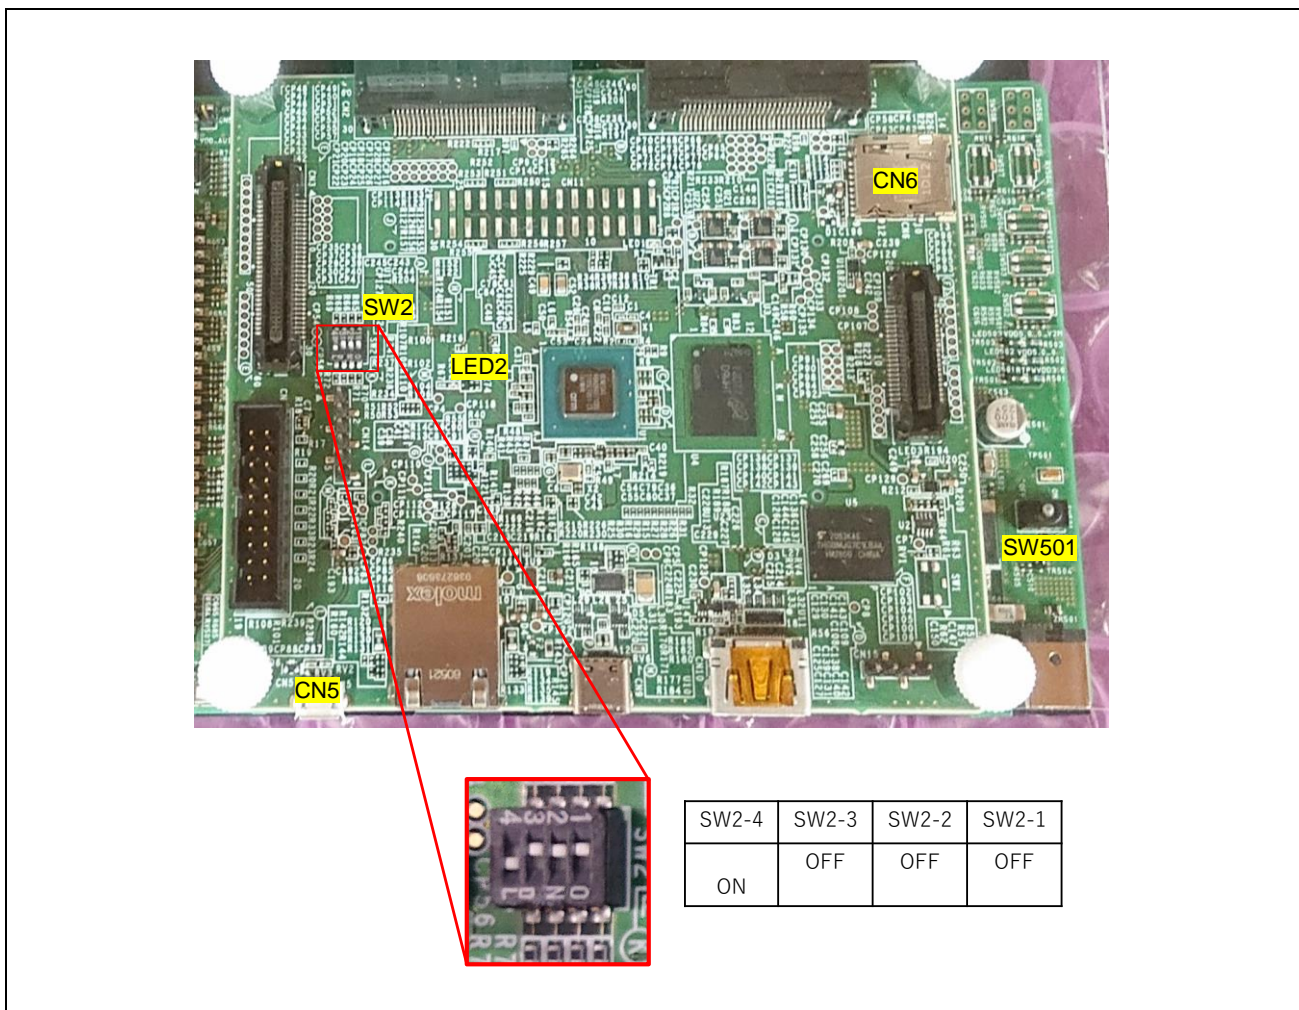

Figure 2.1-1 SW2 Settings
1. With the V2MEVK board power turned off, insert the prepared SD card into the V2MEVK's CN6 connector and set SW2 (see **Figure 2.1-1** for the SW2 setting method)